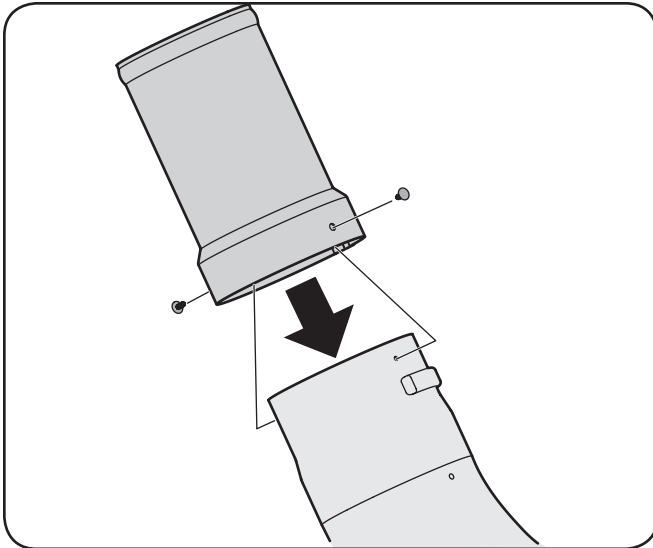

Figure 4-22
7. Install the chute adapter onto the chute elbow by lining up the tabs and sliding the adapter over the chute elbow, as in Fig. 4-22. Secure the chute adapter by installing two ratchet clips (726-3046), included in hardware pack 689-00090, into the holes provided.